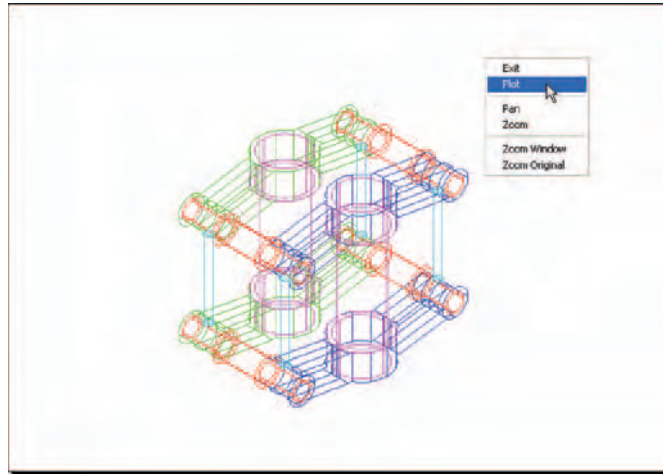

Fig. 19.10 Third example – printing/plotting
Third example – Printing/plotting (Fig. 19.10)
4. If satisfied with the preview (Fig. 19.10) *right-click* and *click on Plot* in the menu which appears. The drawing plots.